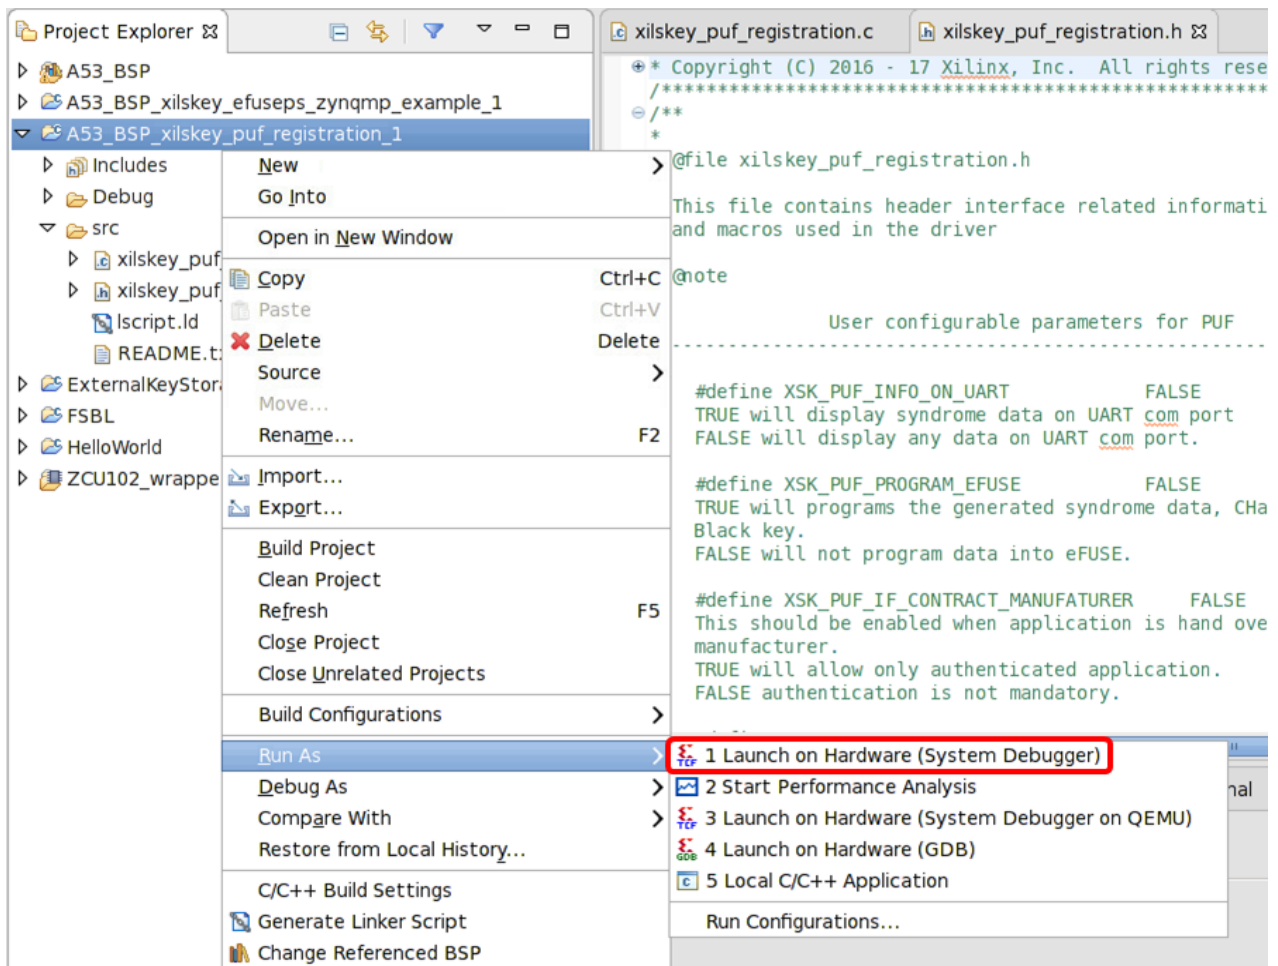

Figure 7: Running the PUF Registration on the ZCU102 Board
- Right-click **A53_BSP_xilskey_puf_registration_1** > **Run As** > **Launch on Hardware (System Debugger)** (System Debugger) as shown in Figure 7.